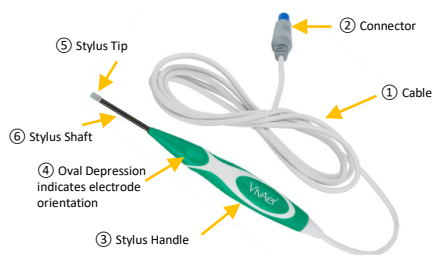
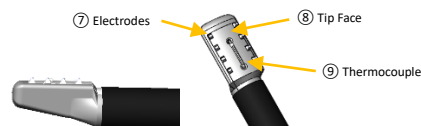

Figure 1: VivAer® Stylus
Figure 2: VivAer® Stylus Tip
The VivAer® Stylus consists of a handle, shaft and treatment tip (see Figure 1). An array of bipolar electrodes is positioned on a non-conductive tip (see Figure 2) which is attached to a handle via a non-conductive shaft. A temperature sensor is located on the tip (see Figure 2) to monitor tissue temperature. The Stylus is attached to a temperature-controlled radiofrequency generator via a flexible cable.
15. Position the electrode-containing portion of the tip of the Stylus against the target tissue of the nasal airway and exert gentle pressure. The orientation of the electrodes may be verified by the Oval Depression on the Stylus handle. Refer to Figure 1.